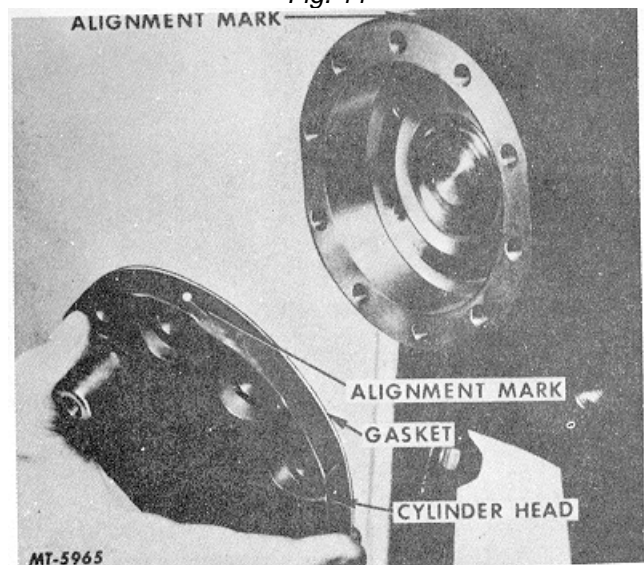

Fig. 12
10. Remove cylinder head and gasket, Fig. 12.